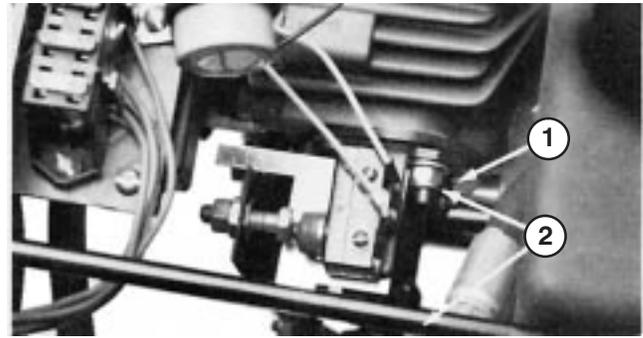

Figure 45
- Loosen two locknuts securing pump plate so plate is free to move (Fig. 45).
- Start engine and rotate pump plate (Fig. 45) in either direction until wheel ceases rotation.
- Stop engine and tighten locknuts to secure pump plate (Fig. 45).